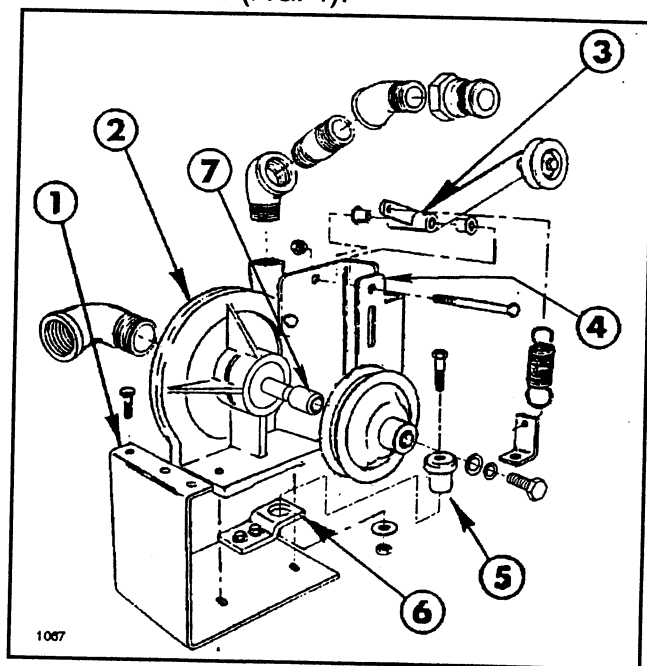
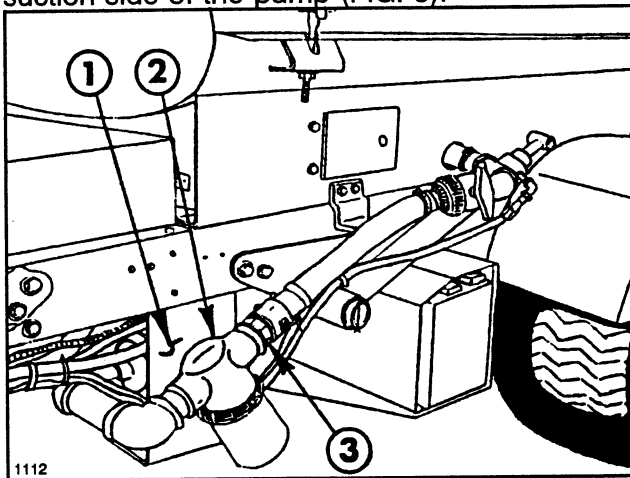

FIG. 1
FIG. 3
1. Slide the Pulley Spacer on the Pump Shaft. Install the square key into the centrifugal pump shaft key slot. Place the pump pulley on the pump shaft and secure to the shaft using 5/16" x 3/4" hex hd. cap screw, 5/16 I.D. 10 GA. flat washer, and lockwasher (FIG. 1).
2. Attach the idler pivot bracket to the pump by removing the two pump housing bolts and replacing with (2) 3/8" x 1" hex hd. cap screws. (See FIG. 1)
4. Mount the small inside idler pulley on the long arm of the idler pivot using the 3/8" x 2 3/4" hex hd cap screw, 1 1/8" spacer, and locknut. Attach the tension spring to the short arm of the idler pivot assembly (FIG. 1).
5. Apply sealer and install the 90 degree x 1 1/4" street elbow into the suction port of the pump. Apply sealer and install the 1" x 3" nipple, (2) 45 degree x 1" elbows, and quick adapter into the discharge port of the pump (FIG. 1).
6. Install the rubber mount into the tab mount and loose fit the tab mount to the pump mounting bracket using the (2) 3/8" x 1" hex hd cap screws, flat washers, and locknuts (FIG. 1).
7. Attach the pump mount bracket assembly to the left side of the vehicle frame using the (3) 5/16" x 1" hex hd cap screws, lockwashers, and hex nuts (FIG. 3). Next, attach the tab mount to the crossmember using the 3/8" x 1 1/2" hex hd cap screw, 3/8" I.D. 10 GA. flat washer, and locknut. See FIG. 1. Tighten all fasteners securely.
9. Mount the pump and the spring tab to the pump mount bracket using the (2) 3/8" x 1 1/2" hex hd cap screws, flat washers, and locknuts. Attach the spring to the spring tab located at the base of the pump (FIG 1).
10. Apply thread sealer and install the 1 1/4" close nipple, suction strainer, 90 degree st. elbow, reducing nipple, and quick adapter into the suction side of the pump (FIG. 3).